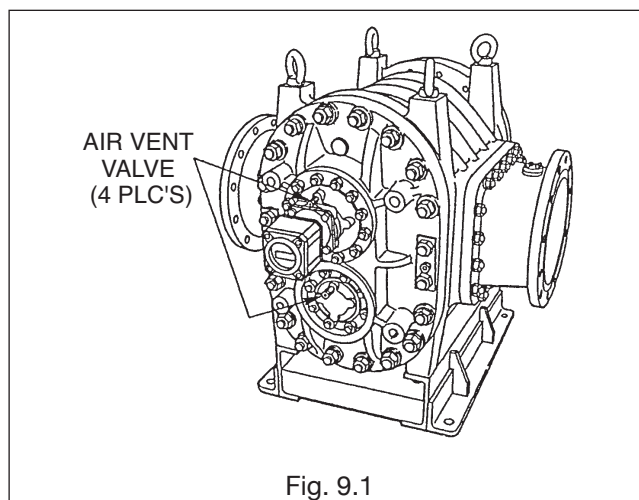

Fig. 9.1
- (1) Read well the information stated on the nameplate before commencing operation and make sure the operating conditions conform to the specification.
- (2) At first time operation with actual fluid, let air out from air vent valve for each bearing (see Fig. 9.1 below).